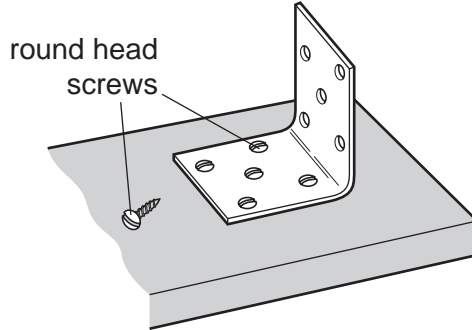

Fig. 1
- 1 Fig. 1 shows a metal bracket screwed to a block of wood.